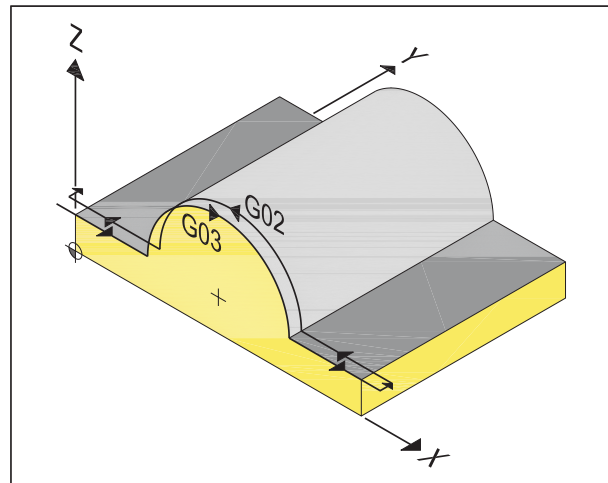

Figure 31-5
*Figure 31-5* demonstrates tool motion for the two passes included in the program example. To interpret program data correctly, note that program zero is at the *bottom left corner* of the part. Both clearances off the part are 0.100 and the stepover is 0.050: